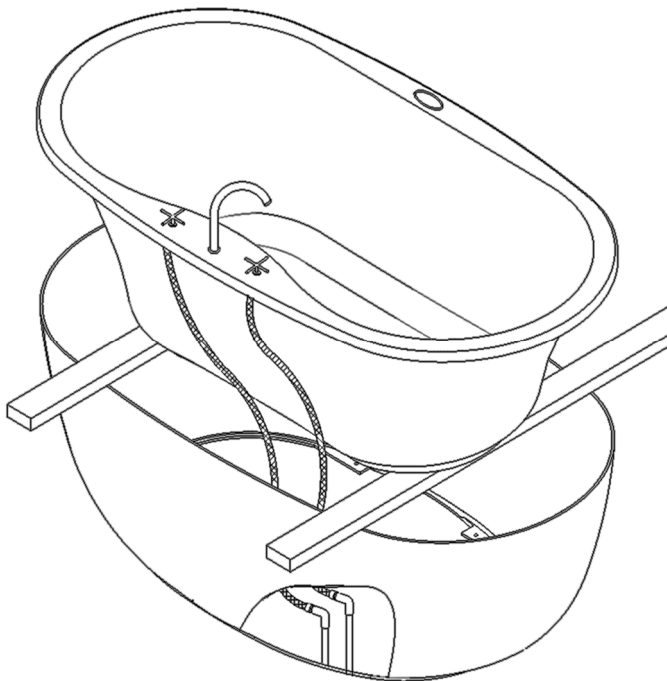

Figure 5
16. **Drill the four (4) pilot holes to secure the skirt to the floor.**
20. Place two 2” x 4” boards approximately four (4) feet in length across the top of the skirt.
21. Set the bath on top of the 2” x 4” boards. Secure stainless steel flex plumbing to the deck-mounted faucet (if applicable) **See Figure 5.**